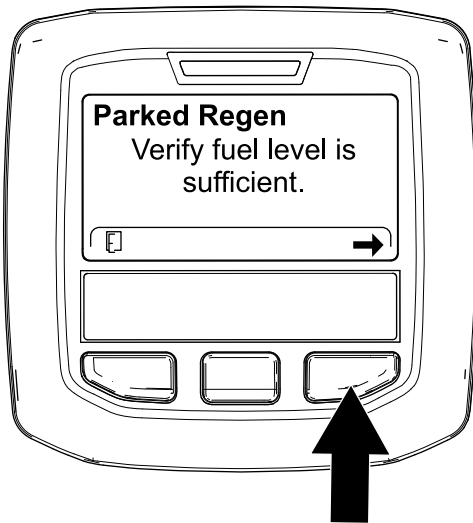

Figure 57
- At the VERIFY FUEL LEVEL screen, verify that you have 1/4 tank of fuel if you are performing the parked regeneration or 1/2 tank of fuel if you are performing the recovery regeneration, and press the right button to continue (Figure 57).